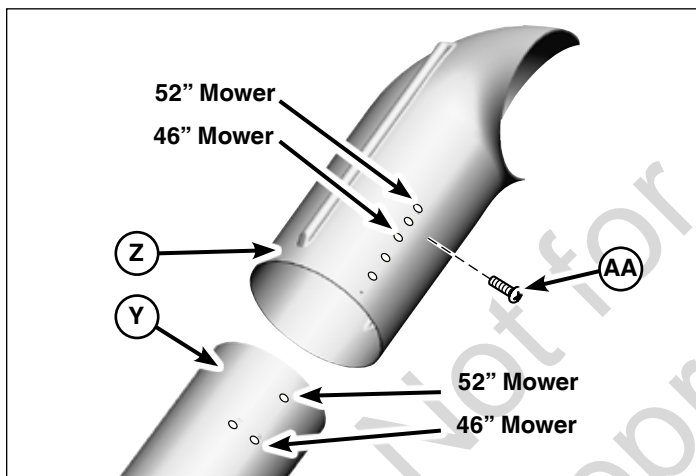

Figure 18
1. Slide the middle tube (Y, Figure 18) into the upper tube (Z).
2. Align the holes for the deck sizes and install the screw (AA) into the upper tube and middle tube.